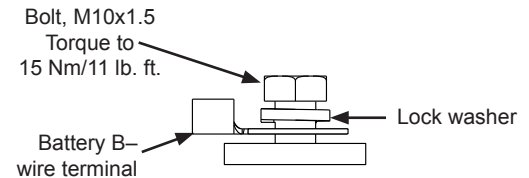

Figure 3: B- Terminal Hardware Stacking Order
6. Connect vehicle B- cable to alternator B- terminal. Install B- hardware in stacking order shown in Figure 3. Torque to 15 Nm/11 lb. in.